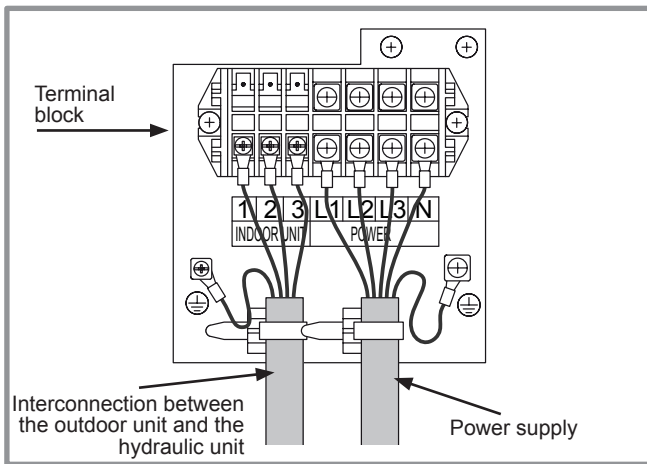

figure 38 - Connections to 3-phase outdoor unit's terminal block
- Make the connections in accordance with the diagram figure 38, page 26.